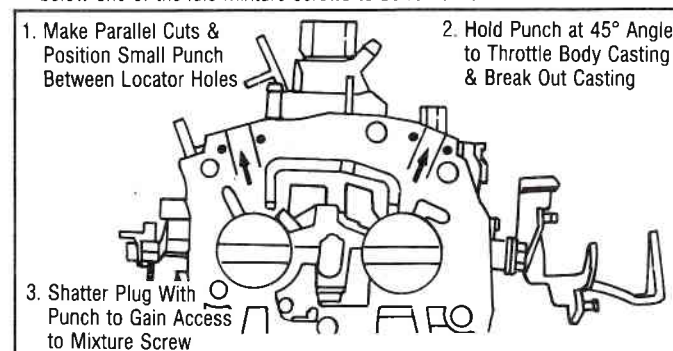

Fig. 1 Removing Steel Plugs and Idle Mixture Screws From Throttle Body
1. Mount throttle body, manifold side up, on a suitable holding fixture. Make 2 parallel cuts with hacksaw between locator holes. See Fig. 1.